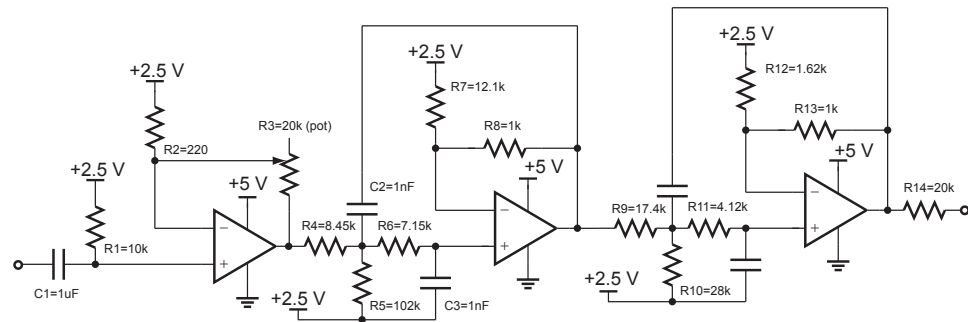

Figure 10: Schematic of the active low-pass filter.
In this part of the lab, we will implement an active low pass filter (LPF) with an adjustable gain stage. In the final radar system, the LPF+Gain stage will be responsible for filtering out spurious signals that may disturb the received baseband radar signals. We will use the Texas Instrument OPA4228 quad Op-Amp for both the gain stage and the active LPF. A pinout diagram of OPA4228 is shown in Fig. 6.10.4. Fig. 10 shows the schematic of the circuit. Fig. ?? shows an example of the actual circuit on a breadboard.
1. Identify the gain stage in Fig. 10. What is the expression of its gain? Notice the +2.5 V bias does not affect this result, rather it simply shifts the bias of the overall amplifier since a single 5 V supply (battery) is used vs a dual-rail (both positive and negative) supply.
1. Identify the active LPF portion of the circuit in Fig. 10. The overall filter consists of 2 low pass filters. What is the order of the overall filter and how is it determined from the schematic?
3. To measure just the filter response, disconnect R4 and R14 from the circuit (Fig. 10). Input a 3 Vpp signal in place of R4 and measure the output in place of R14.
4. To measure just the filter response, disconnect R4 and R14 from the circuit (Fig. 10). Input a 3 Vpp signal in place of R4 and measure the